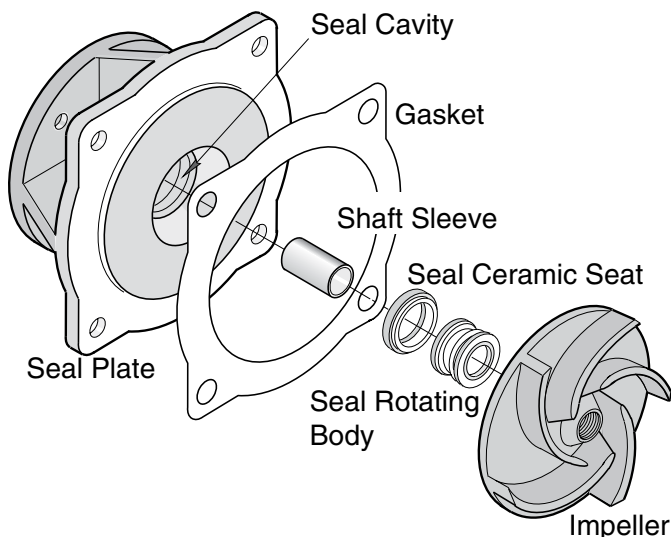

Figure 2 - Seal components and orientation
1. Refer to Figure 2. Remove pump case from seal plate to expose impeller and mechanical seal.